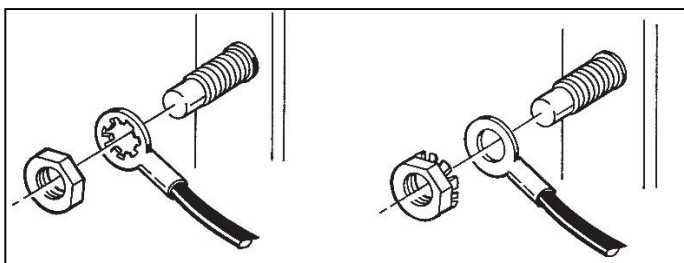

Figure 37
- Choose ground fasteners (studs, ring terminals, etc.) that are plated for corrosion resistance. Make sure that they are compatible with the ground material to minimize the possibility of galvanic corrosion. Ring terminals should have an anti-rotation feature. (See Figure 37).